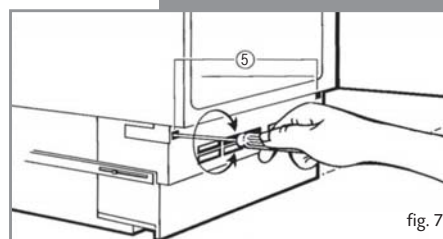

fig. 7
- Attach the appliance plinth at screws (5), turning screws clockwise until considerable resistance is felt (figure 7).